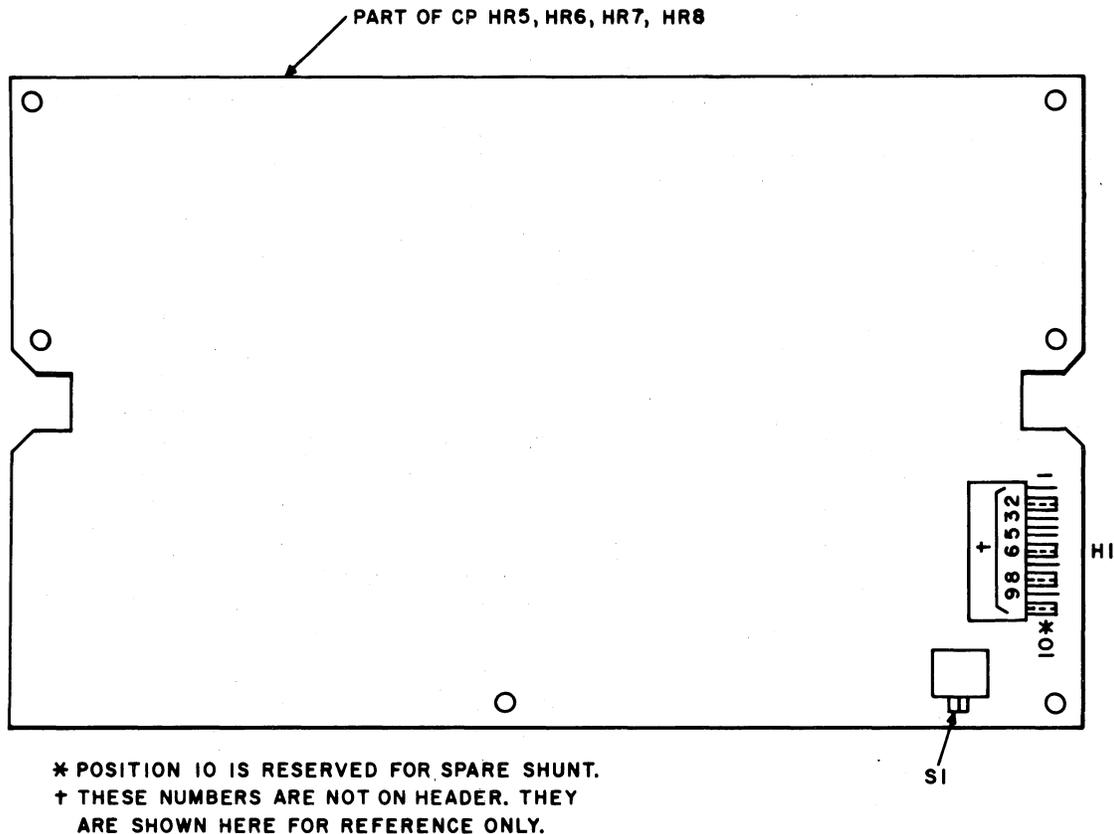

Fig. 5—CSU Options and Switch-Header Positions
2.09 ♦When the older receiving circuit pack is used, install the ground and FLBO options per the service order or CLRC in accordance with Fig. 4. When the newer receiving circuit pack is used, install the ground and FLBO options per the service order or CLRC in accordance with Fig. 5 and Table A.♦